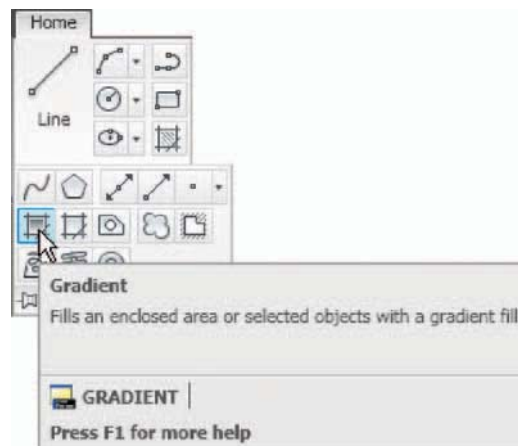

Fig. 8.7 The **Gradient...** tool icon from the **Home/Draw** panel
2. Click the **Gradient** icon in the **Home/Draw** panel (Fig. 8.7) or in the **Draw** toolbar. In the **Hatch and Gradient** dialog which appears